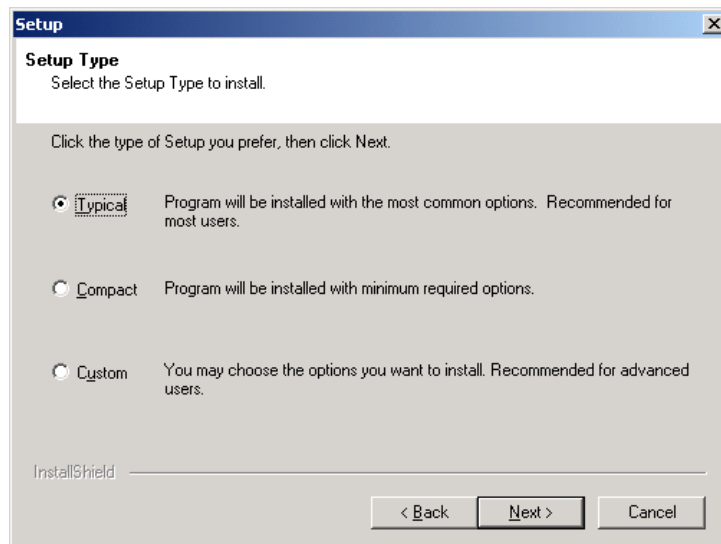

Figure 33 - Selecting the Type of Installation.
6. Select "Next" to choose the type of setup to perform (see Figure 33). "Typical" will install the most common components, while "Compact" will only install the absolute necessary components. To choose which components to install, choose "Custom".